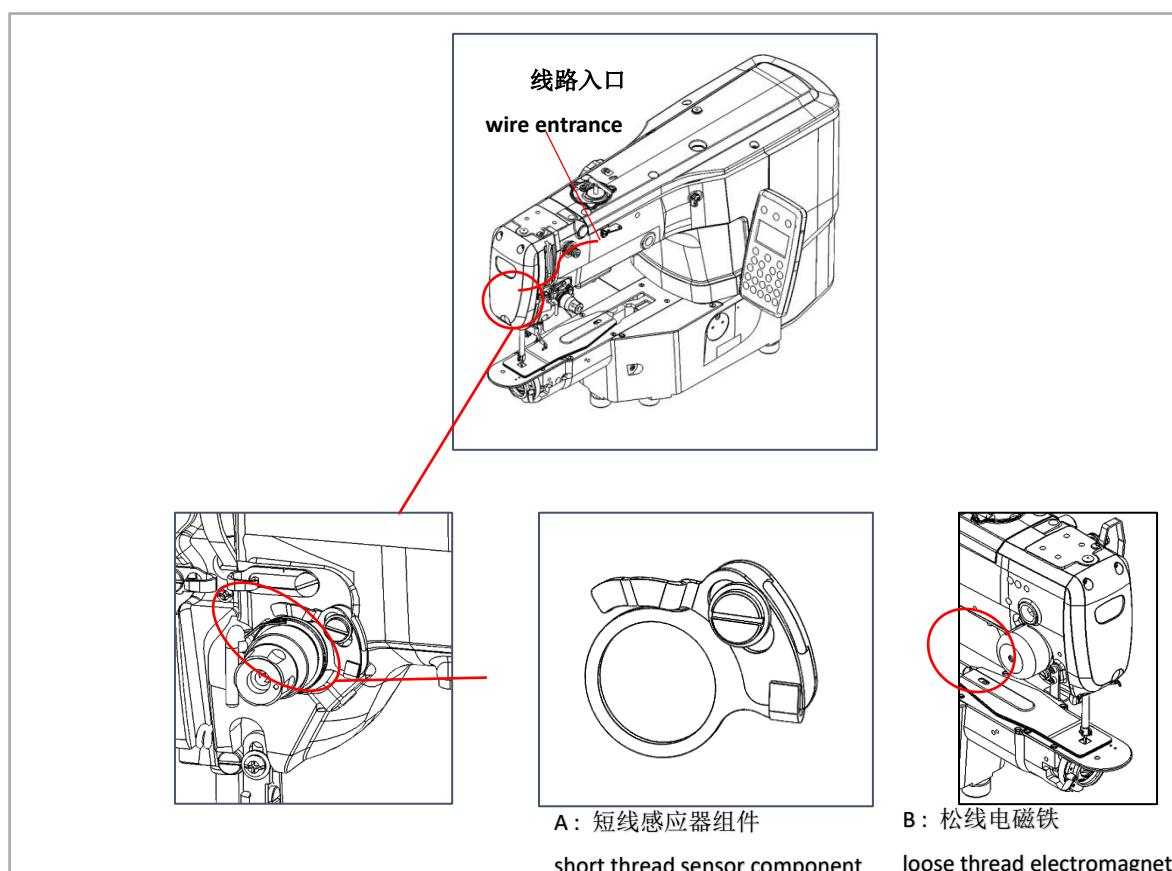

图 9.6 短线感应器安装 Figure 9.6 Installation of Short Thread Sensor
- 第三步，将断线感应器线沿着线路入口（如图 9.6）到机头尾部，再和机头电控线一起下去，通过线槽进入电控箱，将其接到 PLC “X0” 接口。
Step 3: connect the thread broken sensor wire along the wire entrance (as shown in figure 9.6) to the tail of the sewing head, and then go down together with the electrical control wire of the sewing head, enter the electric control box through the wire slot, and connect it to the interface of PLC "X0".